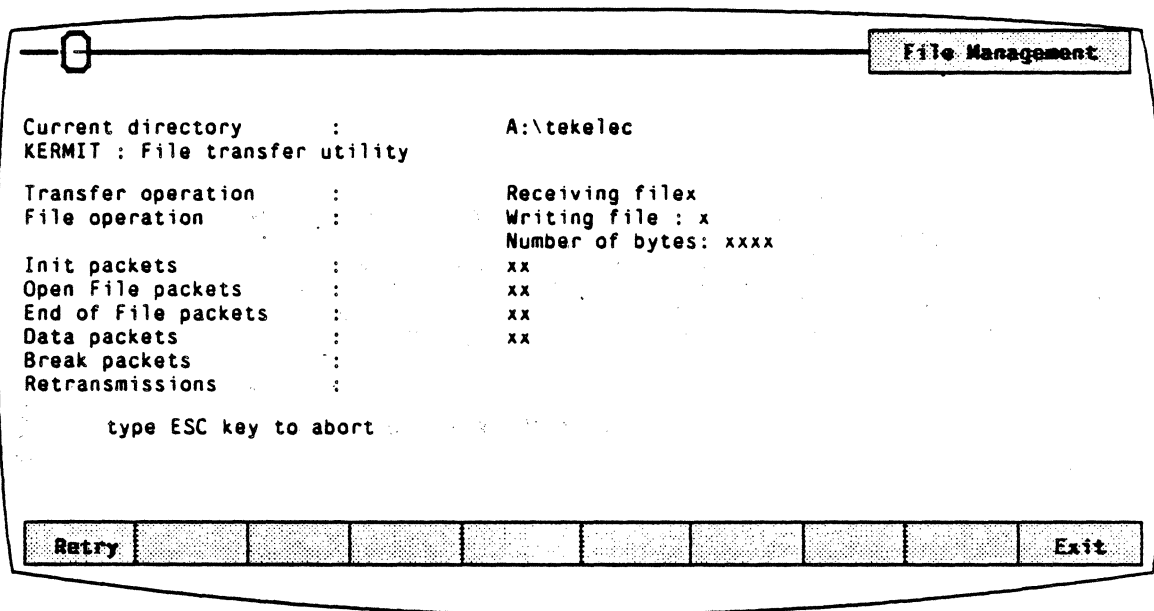

Figure 10.5: File Transfer Utility (Receive) Screen
8. As the file is transferred, information is displayed so that you can monitor the transmission (Figure 10.5).